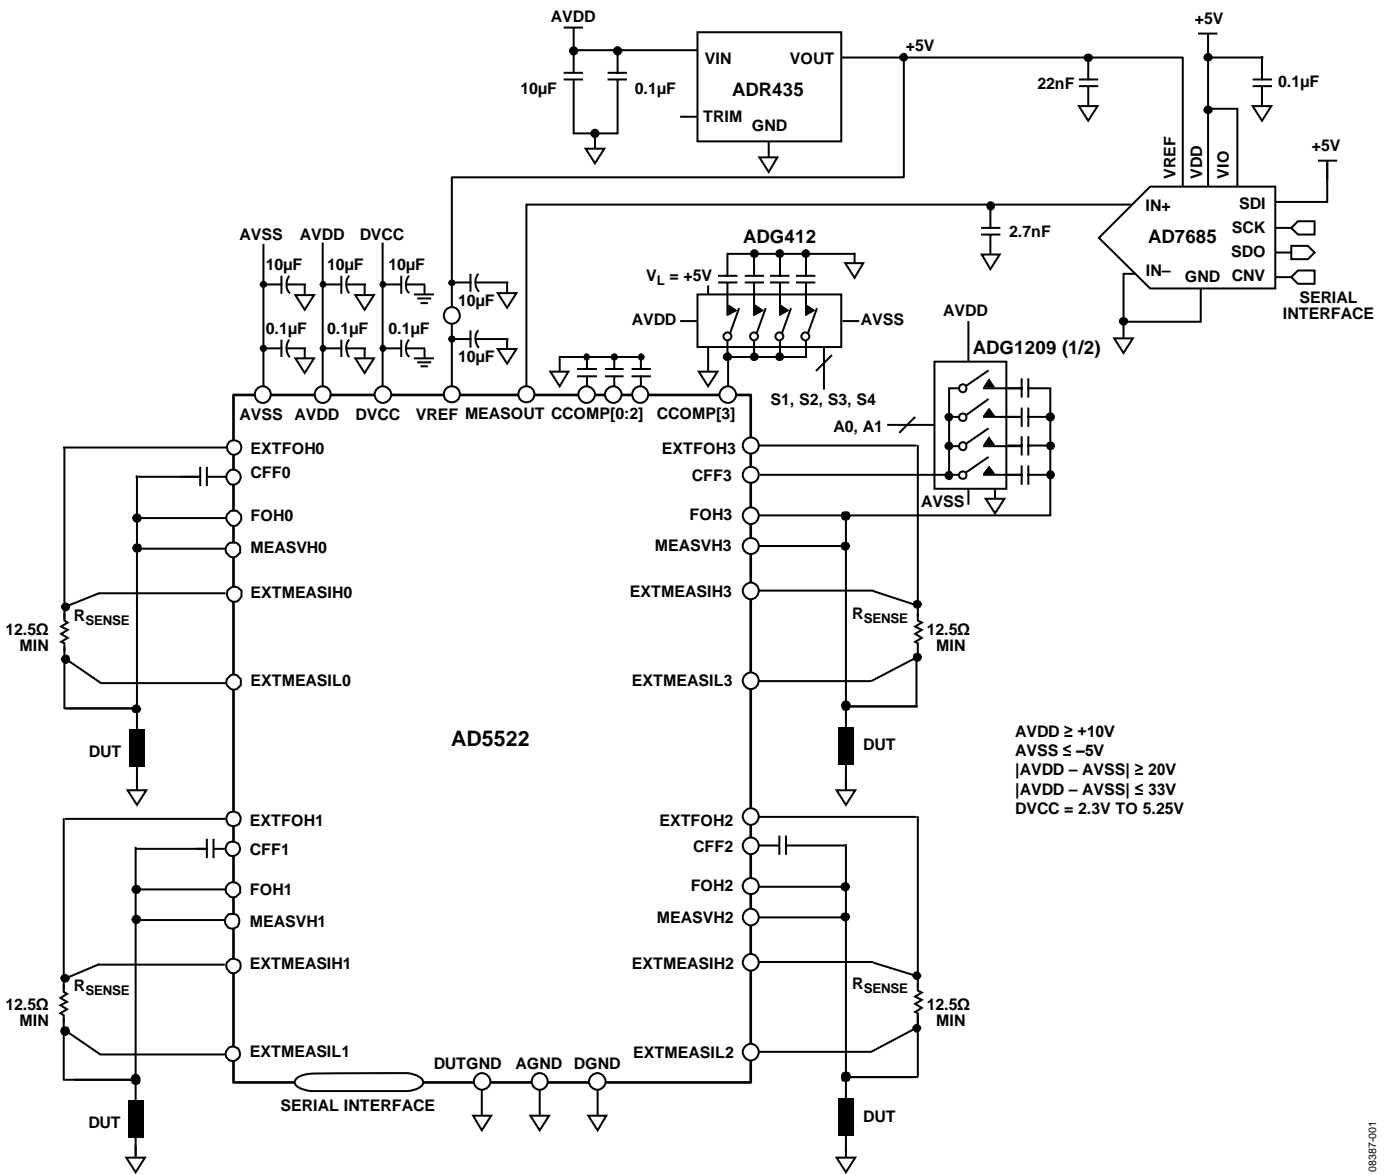

Figure 1. Parametric Measurement Unit and Supporting Components (Simplified Schematic)
- An ADC can be shared across multiple channels. In Figure 1, one AD7685 ADC is shared across the four PMU channels. In some applications, an ADC might be shared across many more channels, sometimes 8 or 16 PMU channels.
The circuit must be constructed on a multilayer PC board with a large area ground plane. Proper layout, grounding, and decoupling techniques must be used to achieve optimum performance (see Tutorial MT-031, Grounding Data Converters and Solving the Mystery of "AGND" and "DGND" and Tutorial MT-101, Decoupling Techniques). Note that Figure 1 is a simplified schematic and does not show all the necessary decoupling.